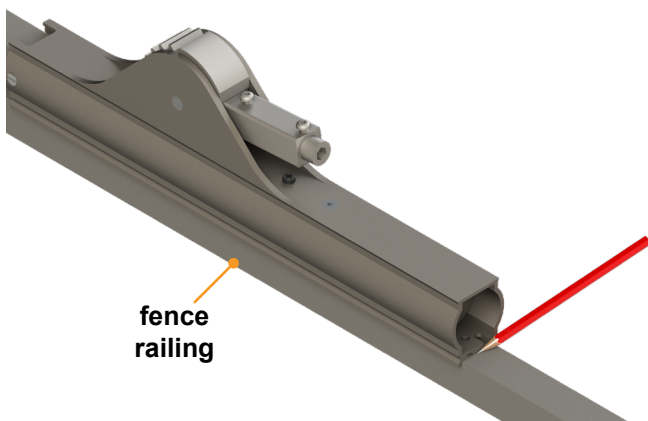

Fig.6
B. When properly positioned, use a pencil and trace a line across the front of the actuator (Fig.6).